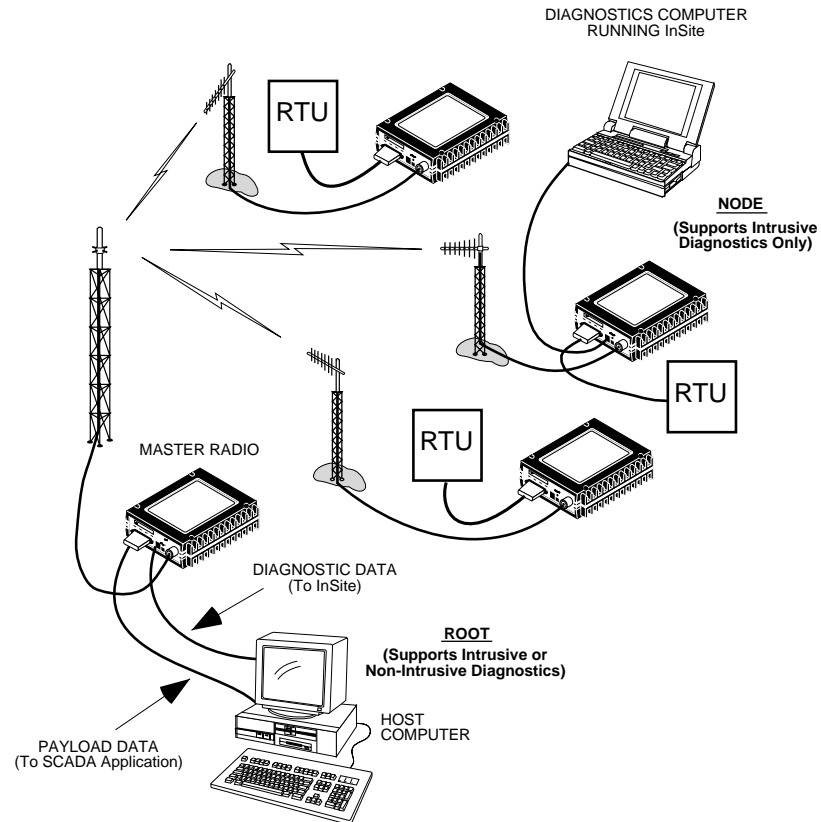

Figure 12. Network-Wide Remote Diagnostics Setup
Figure 12 shows an example of a setup for performing network-wide remote diagnostics from both a Root (master station) location, and a Node (remote station) location.
6. Connect a PC on which MDS InSite software is installed to the root radio, or to one of the nodes, at the radio's diagnostic port. (This PC may be the PC being used to collect payload data, as shown in Figure 12.)